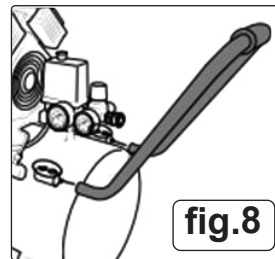

fig.8
4.5.2. Slide the tank handle into the horizontal tubes, push the tank handle as far in as possible. Fig.8